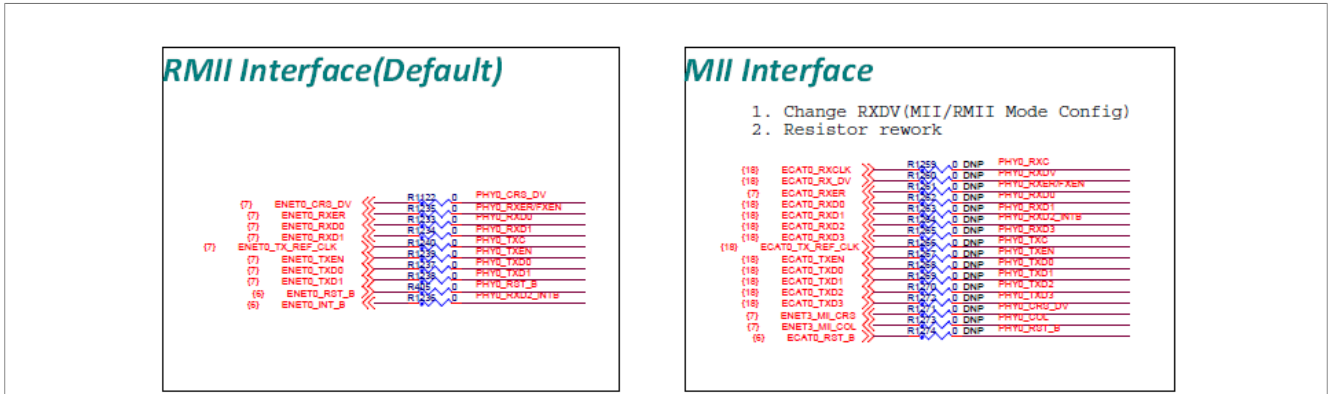

Figure 13. Resistor rework to support MII using ENETO
- To use the PHY0 in MII mode, resistor rework is required as shown in Figure 13.